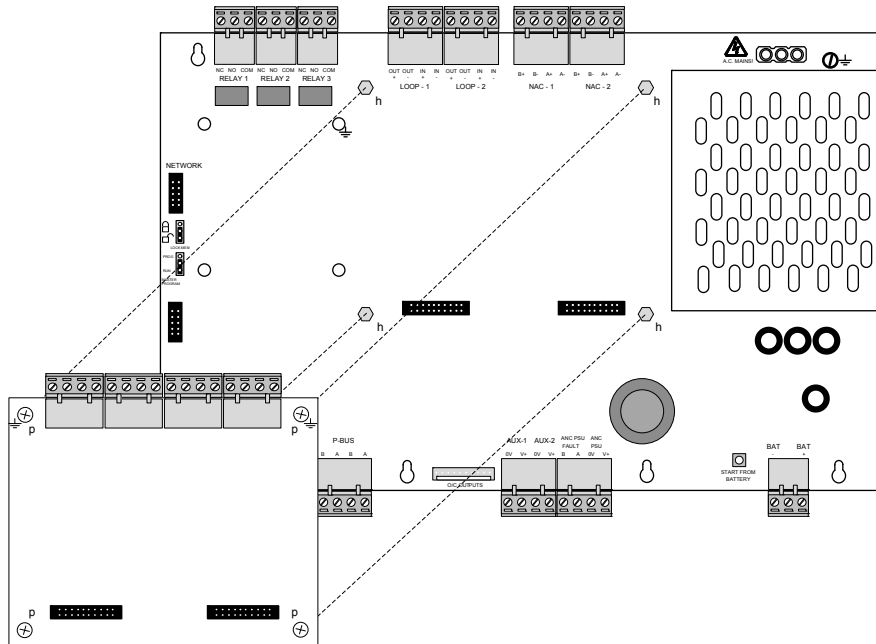

Figure 29 - AX-LPD or AX-NAC Module Mounting to AX-CTL-2PCB
The AX-LPD and AX-NAC modules are supplied with four (4) metal hexagon spacers [h] and four (4) screws [p]. Insert and tighten the four (4) metal hexagon spacers [h] to the AX-CTL base card (see figure 29).
Position the module onto the metal hexagon spacers, while plugging the module into the two (2) 20-pin connectors on the AX-CTL base card and secure with the four (4) supplied screws [p] (see figure 29). It is critical that these screws are tightly secured as the two top screws are required for the earth ground connection to the AX-LPD or AX-NAC module.
Remove power (AC and battery) from the system. Remove all field wiring terminal blocks from the AX-LPD or AX-NAC module. Remove the four (4) screws securing the module to the AX-CTL base card and remove the module. Position the new module onto the metal hexagon spacers, while plugging the module into the two (2) 20-pin connectors on the AX-CTL base card and secure with the four (4) removed screws (see figure 29). It is critical that these screws are tightly secured as the two top screws are required for the earth ground connection to the AX-LPD or AX-NAC module.